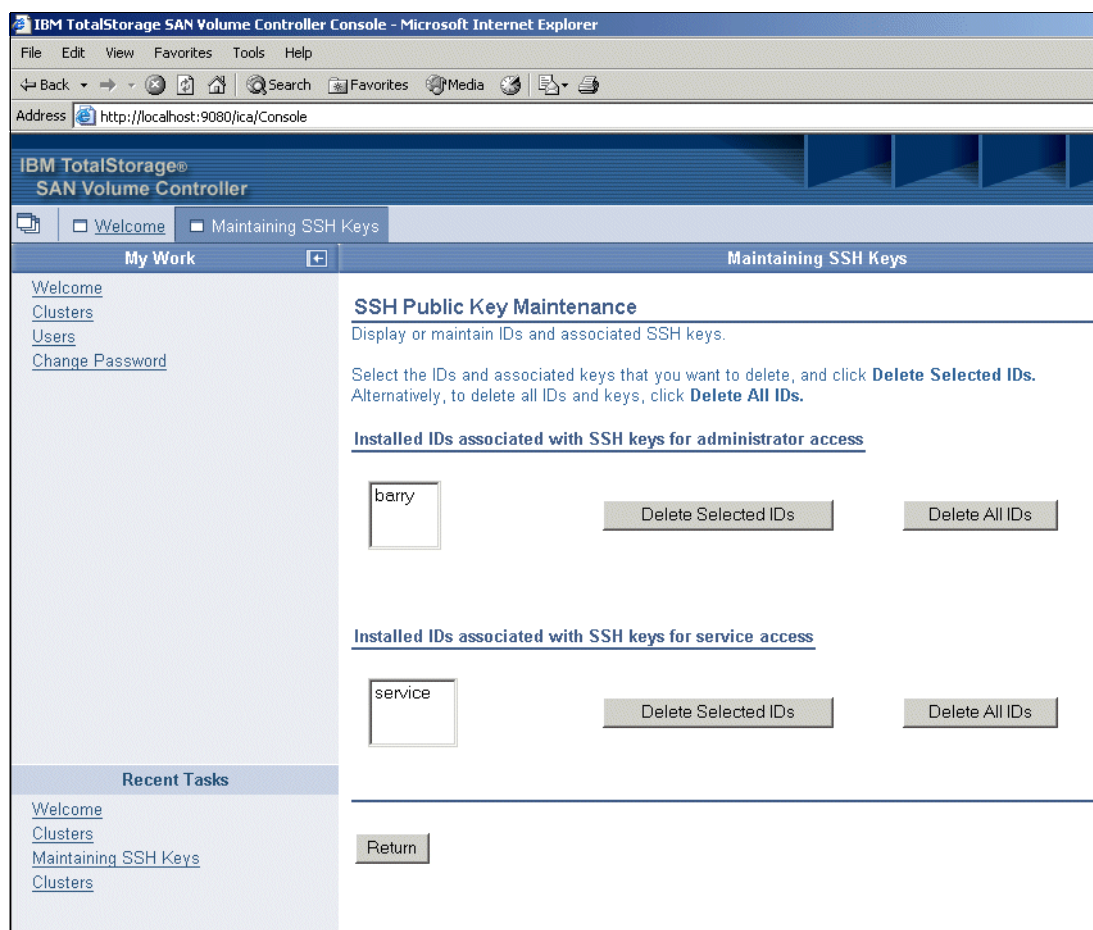

Figure 6-6 List SSH keys panel
8. You see the keys that already uploaded to the cluster as shown in Figure 6-6. In the upper right corner of this panel, click the **X** to close it.